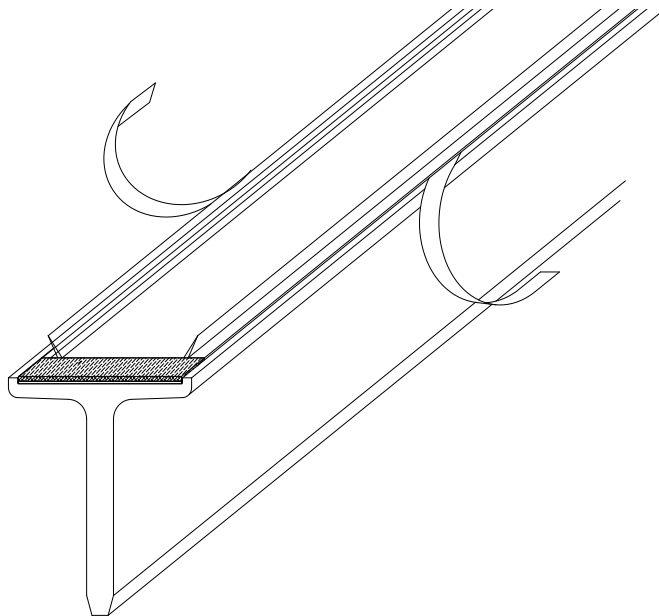

Figure 5
in Figure 5. **Important:** Make sure that the two lines are perpendicular and in the exact final location desired for the corner of your kennel.
3. Apply the Silvis Seal to the "T" by removing approximately 2 ft. of backing tape. Starting at the end blocker, apply the Seal to the recessed channel in the "T" being careful to orient the Seal in line with the "T". Lay the rest of the Seal in the recessed channel. Carefully pull the remaining backing tape from the "Seal" and using light pressure adhere it to the aluminum as shown in Figure 5.